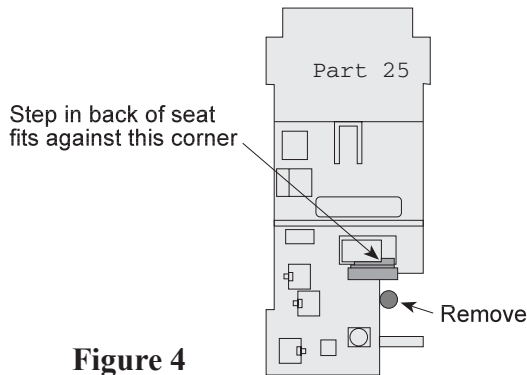

Figure 4
- c) The folded-up Observer's Mate seat (**resin part 6**) attaches to the rear of the uppermost rectangular box sticking out of part 25. There is a strip on the back of the seat which goes on the right side of that box. Confused? See **Figure 4**. Seat is interior colour, seat belts are light grey.